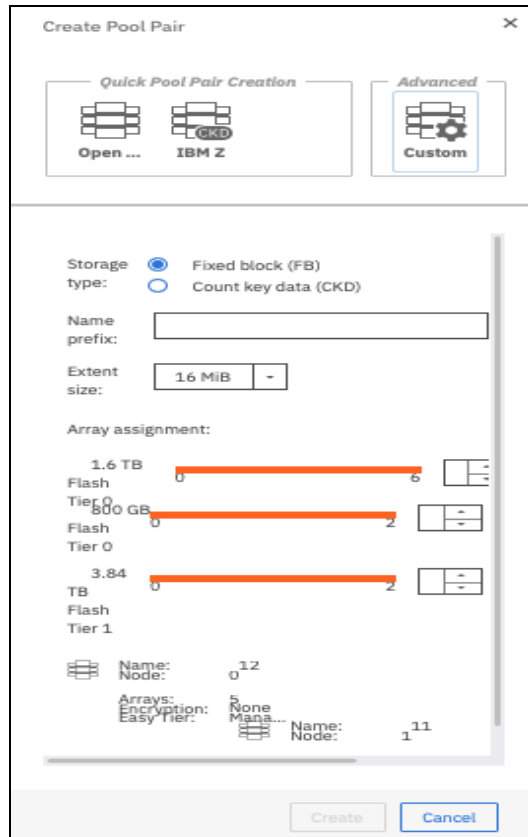

Figure 9-40 Create FB pools (Custom)
4. Specify the pool pair parameters, as shown in Figure 9-40 on page 275:
- Storage type: Ensure that **Fixed block (FB)** is selected.
7. When the pool pair parameters are correctly specified, click **Create** to proceed, as shown in Figure 9-40 on page 275.